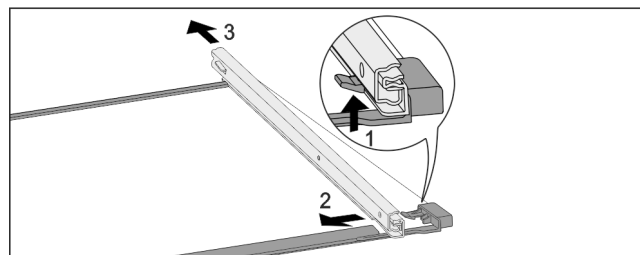

Fig. 105 Glass shelf with rails
- ▶ Push up front click-in hooks. Fig. 105 (1)
- ▶ Move the pull-out rails to the side Fig. 105 (2) and to the rear Fig. 105 (3).